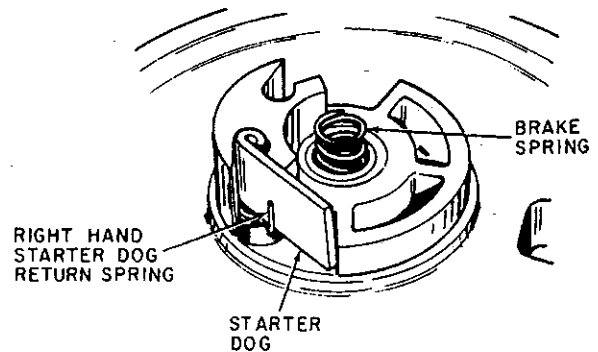

Figure 3
B. Assemble starter dog (6), brake spring (5) and return spring (7) as shown in Figure 3. Tighten retainer screw (3) to 45-55 in. lbs. (5.08-6.21 Nm). If starter dogs do not emerge immediately from cup (4) when rope is pulled, retainer screw (3) may be loose or brake spring (5) damaged. Be sure to preload spring by turning pulley before inserting rope through housing (11) and attaching handle (10).